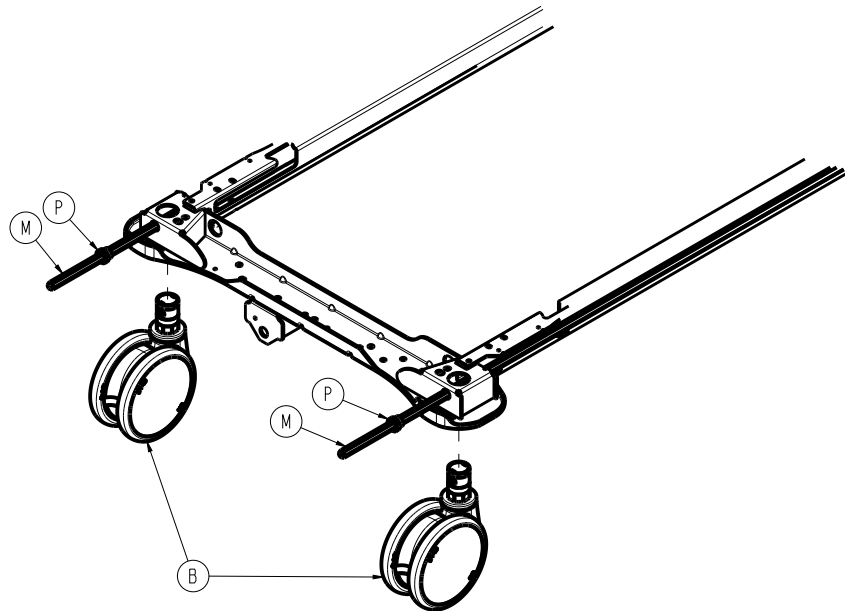

Figure 8 – Removing the caster
- From the opposite end of the caster (B) (which must be replaced), move the brake shaft (M) toward that end until it is out of the caster (B) (which must be replaced) (Figure 8).
8. From the head end, move the brake shaft (M) toward the head until it is out of the caster (B) (Figure 8).